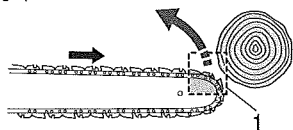

Fig. 1
WARNINGS! : Kickback may occur when the nose or tip of the guide bar (kickback zone (1)) touches an object, or when the wood closes in and pinches the saw chain in the cut. Tip contact in some cases may cause a lightning-fast reverse reaction, kicking the guide bar up and back toward the operator. Pinching the saw chain along the top of the guide bar may push the guide bar rapidly back toward the operator. Either of these reactions may cause you to lose control of the saw, which could result in serious personal injury. Do not rely exclusively upon the safety devices built into your saw. As a chain saw user, you should take several steps to keep your cutting jobs free from accident or injury. (Fig.1)